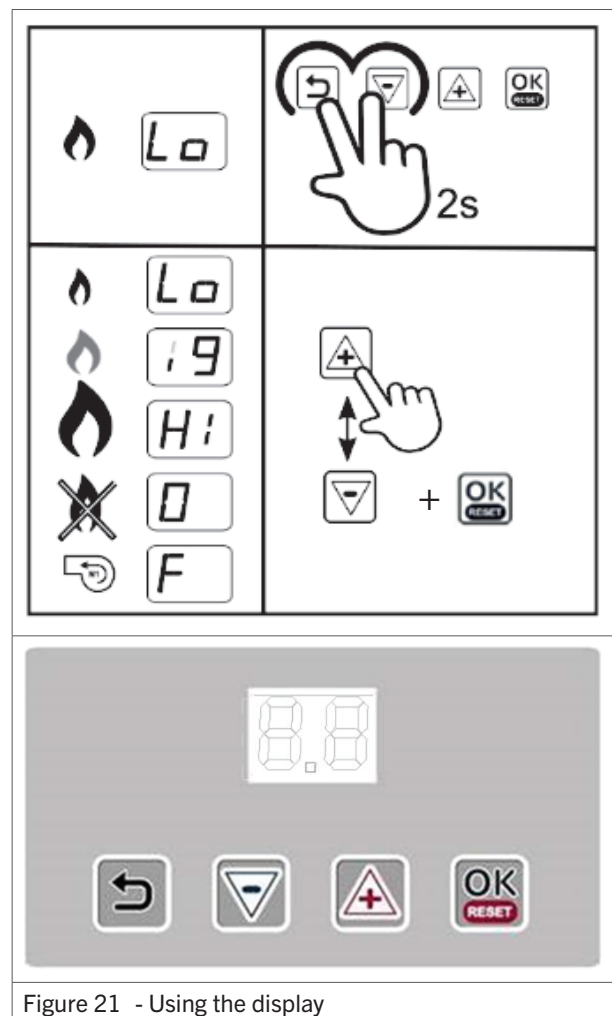

Figure 21 - Using the display
1. Press and hold the **Return** and (–) button for a few seconds (figure 21). The display will alternate between Lo and St. This means the heater will start up in Low fire.
2. Press the (+) and (–) buttons to toggle between Low and High fire (figure 21).